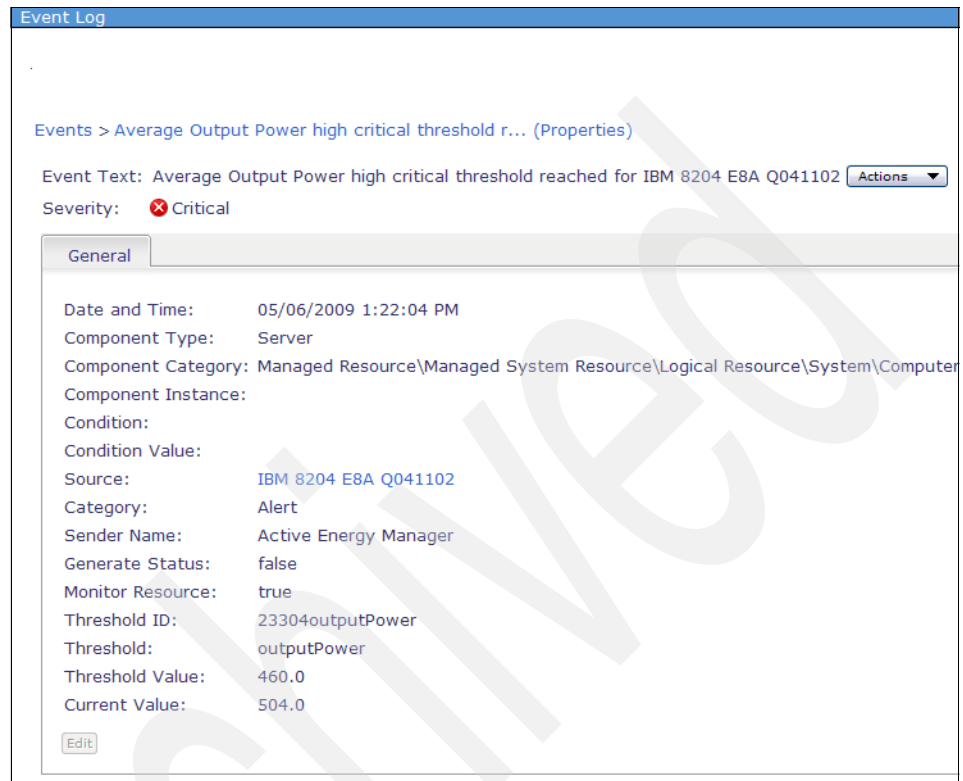

Figure 6-78 Event properties
5. If you click an event in Figure 6-77, the properties for that event display, as shown in Figure 6-78.